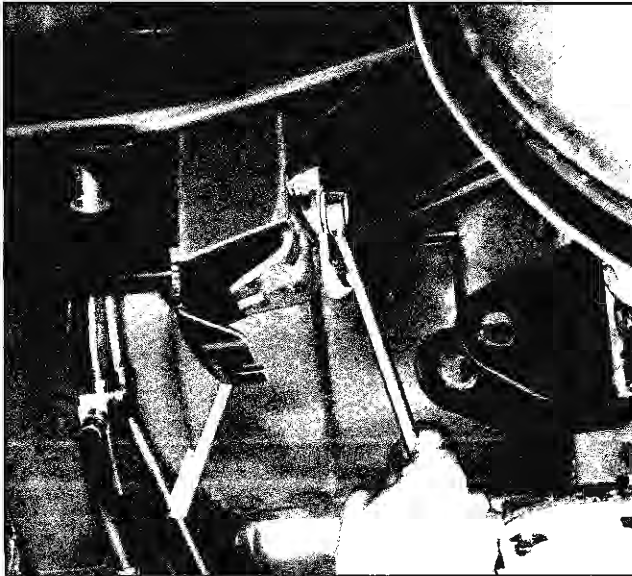

Fig. 4-18 Removing Six Axle Support Crossmember to Insulator Bolts
13. Remove six axle support crossmember to insulator bolts (Fig. 4-18).
8. Remove six axle support crossmember to insulator bolts (Fig. 4-18).